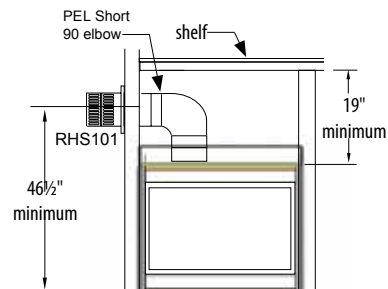

Figure 2a. Framing dimensions. (top vent)
- 2.) Frame your installation, **Figure 2a** if the design incorporates a shelf over the fireplace.